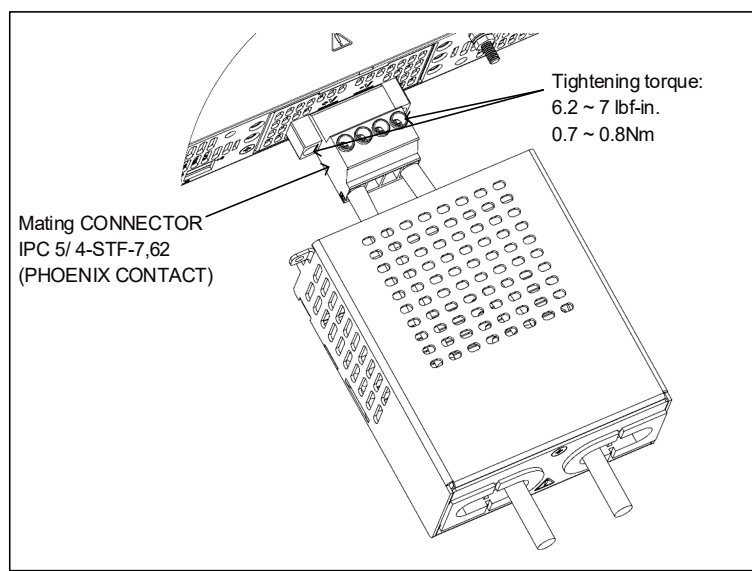

Figure 4-29: Load Wires Connection to The Output Plug
3. Insert the wires through the output protection assembly as shown in Figure 4-29.
4. Insert the stripped wires into the terminals and tighten the terminal screws securely (see Figure 4-29). Tightening torque: 6.2-7 Lbf-inch. (0.7-0.8Nm).
5. Tighten the mating connector to the power supply rear panel (see Figure 4-29). Tightening torque: 6.2-7 Lbf-inch. (0.7-0.8Nm).